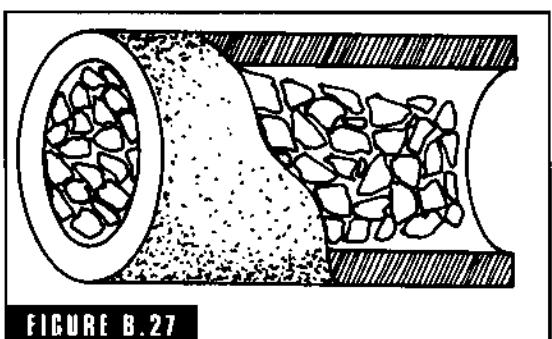

FIGURE B.27
**breeze** Coke and coal screenings used to vent large cores and molds (Fig. B-27). Widely used in large sweep work and large skeleton (pattern) work.